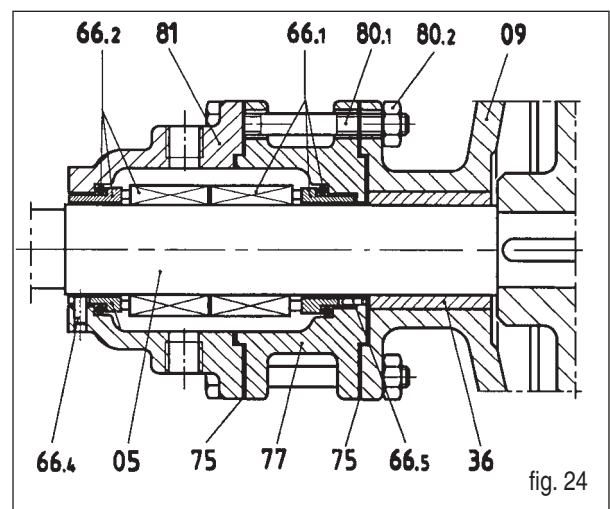

fig. 24
6.7 Mounting the ST8 double mechanical seal (fig. 24)